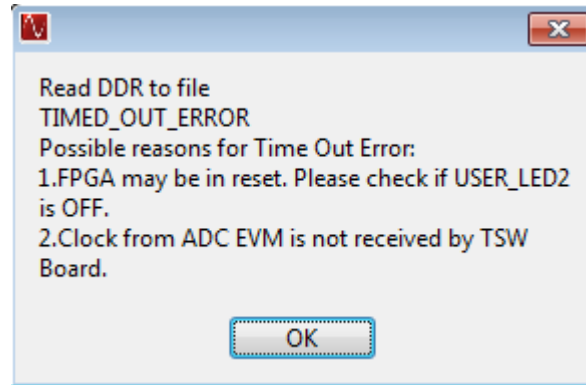

Figure 71. Read DDR Error for No Capture
- **No Capture in HSDCPro:** It is possible that once the GUIs and EVMs are configured for capture, and the capture button in HSDCPro is pressed, that nothing seems to happen and eventually the GUI will timeout and a pop-up an error appears as seen in Figure 71. Reasons for this can include the following: